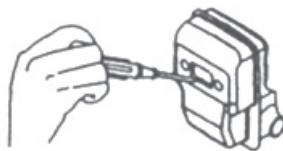

Fig 6
- Clean the accumulated carbon both in the intake and in the exhaust of the muffler (Fig 6,7)